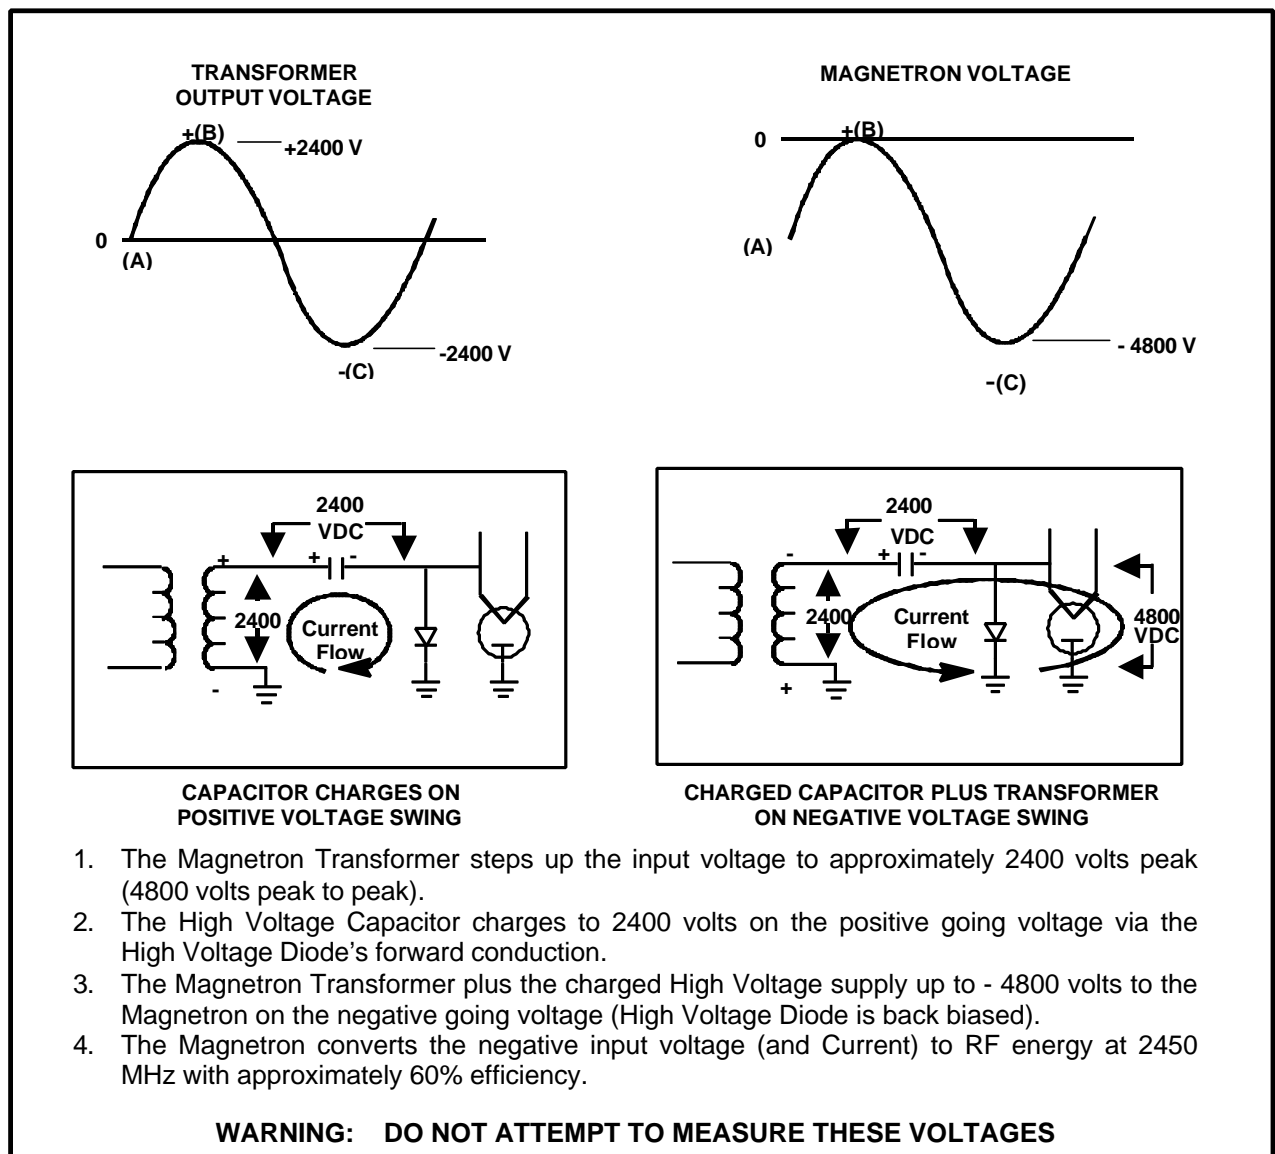

FIGURE 6 - 2 Magnetron High Voltage Power Supply
10. FIGURE 6 - 1 Microwave Leakage Testing